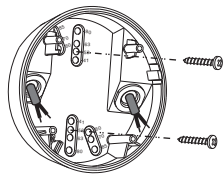

FIG.17
3.3.4.3 Choose two proper knockouts to fix the junction box on the surface of ceiling board with two wood screws (See FIG.17).